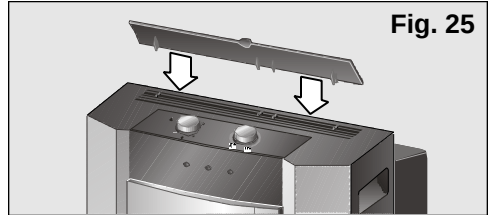

Fig. 25
- ☐ Lift the air director on the top of the appliance. This air director is not installed on the appliance on **PA0630M** models. See **figures 25 and 26** in "Heating".